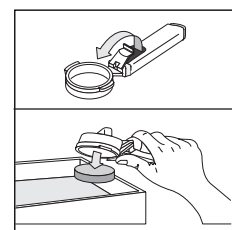

fig. 12
7. To remove the used coffee lock the filter with the built-in lever and let the coffee fall out by knocking the over turned filter holder (fig. 12).